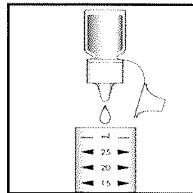

Figure 1
1. Add 5 drops of A-7400 Activator Solution to the empty sample cup (fig. 1).